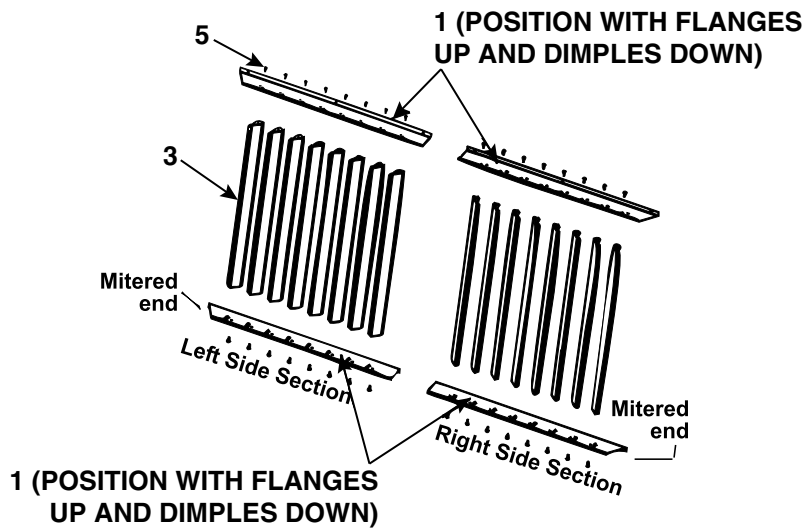

Figure 33. Vertical Louver Assembly—RA and RAD Models, Unit Size 350 (Refer to Table 23)
- The vertical louver assembly for RA and RAD models—unit size 350—is shown in Figure 33.